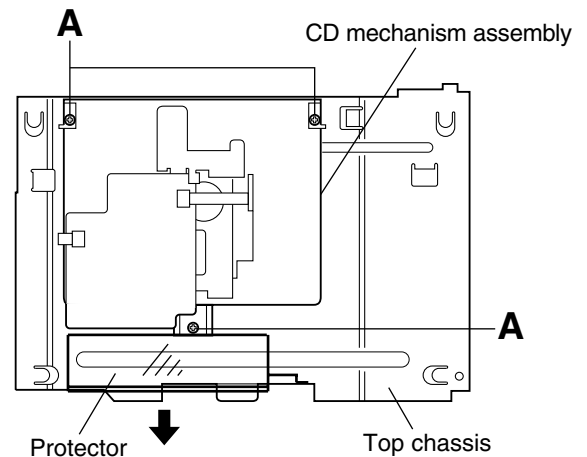

Fig.2
■ Removing the CD mechanism assembly (See Fig. 2.)